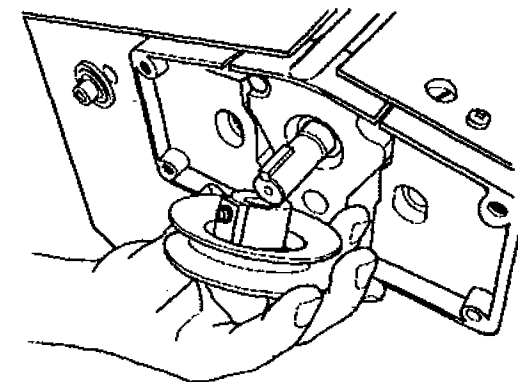

Fig. 31
39. Use a 5/32" Allen wrench to loosen the setscrew in the smaller 3" pulley. Insert the cutterhead motor's driveshaft through the pulley's hole. Line up the pulley setscrew on the key. See Fig. 31.